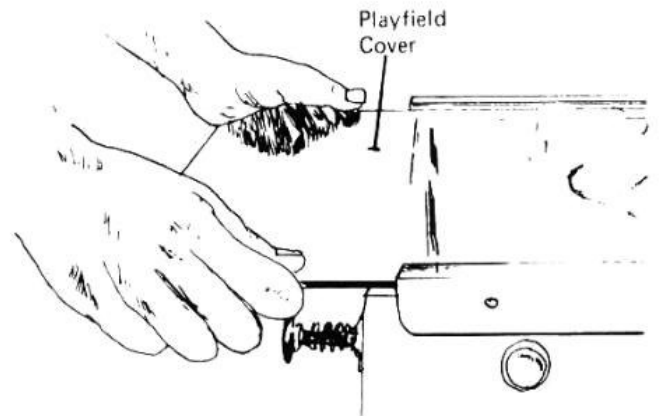

FIGURE 7
2. Slide the Playfield Cover out of the Cabinet. **CAUTION:** The Playfield cover is tempered glass and should be handled with care. Set the cover in a safe place after it is removed from the unit. (Figure 7)
5. Slide the playfield cover back into the player end of the lower cabinet. (See Figure 7, Page 13).